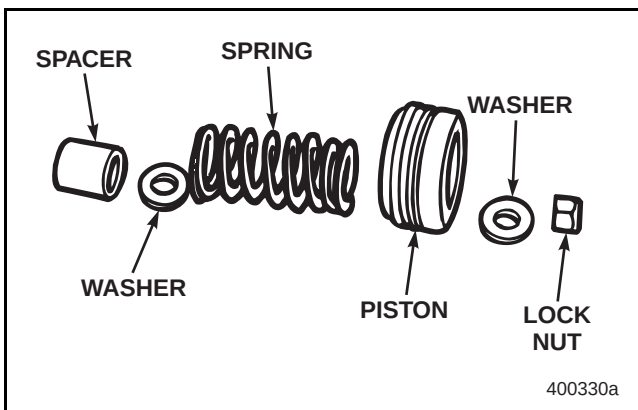

Figure 125 — Spacer, Spring and Piston Assembly
7. Figure 125 shows the components and assembly order that complete the piston and spring assembly. Ensure all of these components are present. Set them aside for reuse if all are in good condition.